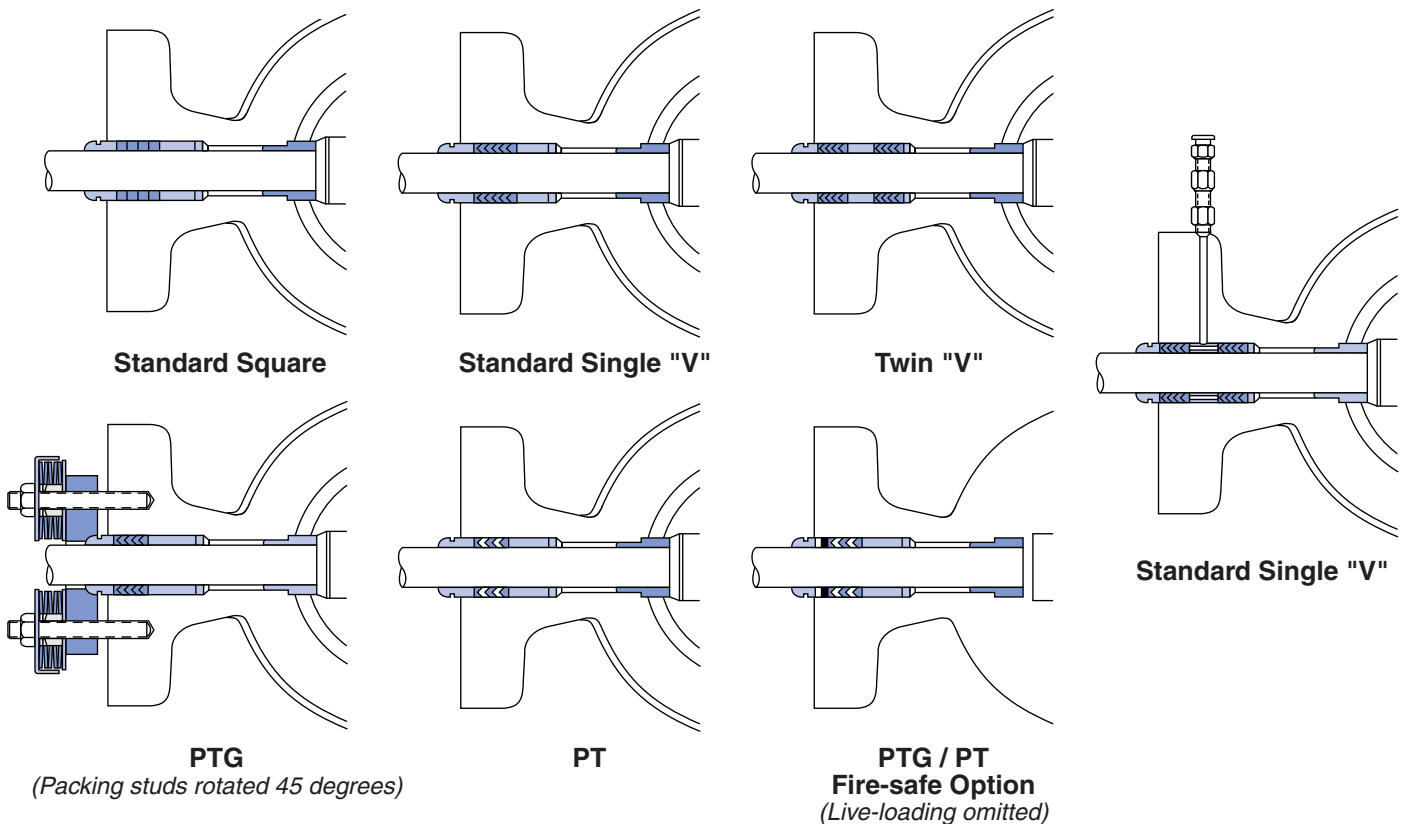

Figure 3: Typical Packing Configurations
7. Slide the packing retainer, lower packing, packing spacer, upper packing, and packing follower over splined end of the shaft and into the body. Typical packing configurations are shown in Figure 3.